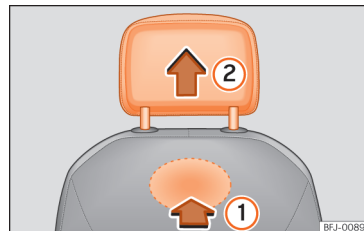

Fig. 74 Front headrest: removal.
- To unlock it, look for the button underneath the headrest and press in the direction of the arrow »» Fig. 74 ①.
- Remove the headrest in the direction of the arrow ②.